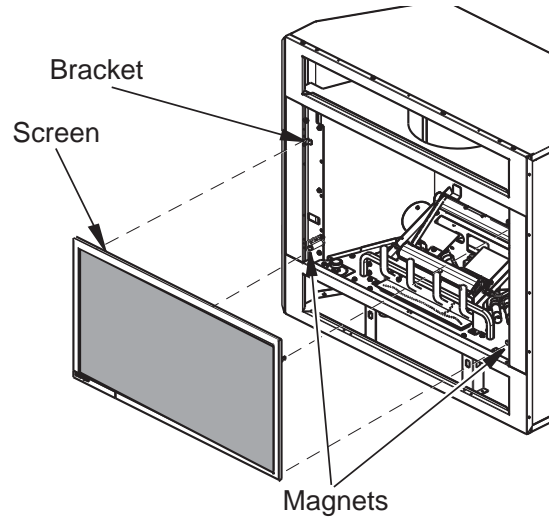

Figure 42 - Installing Fireplace Screen
4. Install fireplace screen by placing the screen brackets on top of the fireplace screen brackets as shown in **Figure 42**. Push the bottom of the screen inward against the magnetic catches to secure in place.